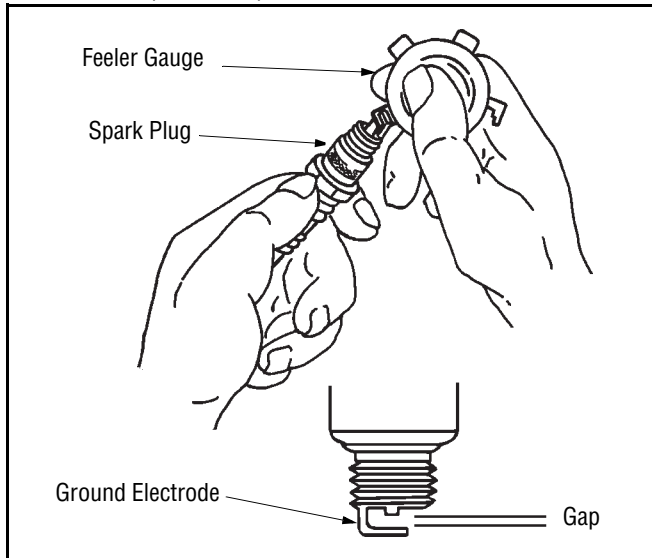

Figure 15
- Check the gap using a feeler gauge and adjust, if necessary, by carefully bending the ground electrode. See Figure 15. Set the spark plug gap to .76 mm (0.030 in.).